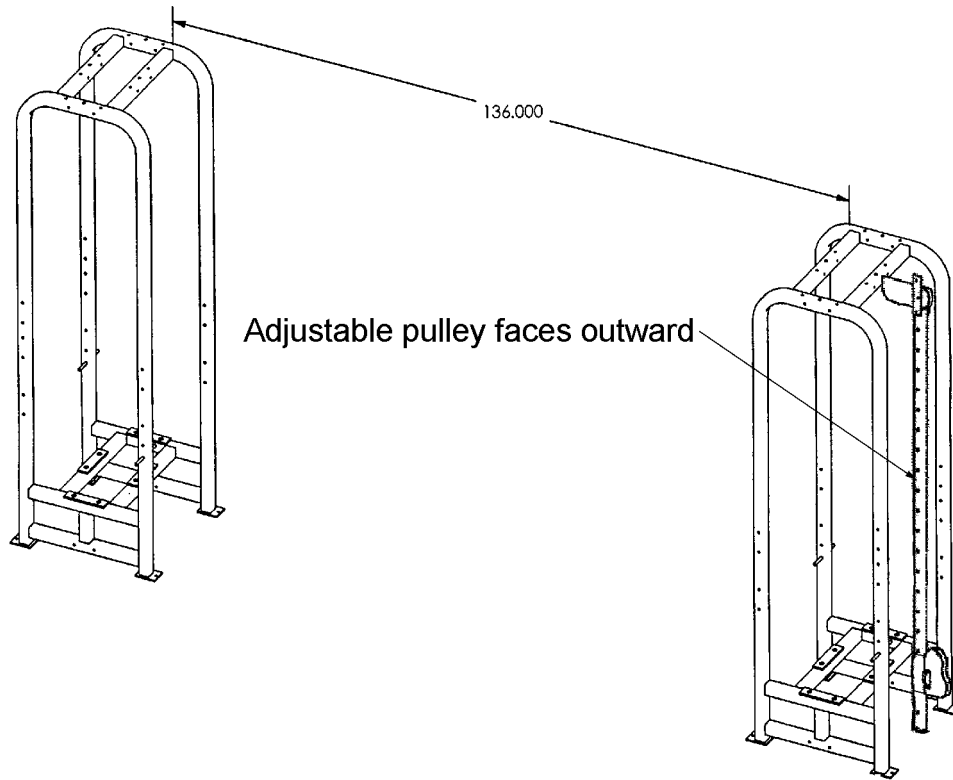

Figure 3. Set the weight stack cubes.
1. **Place the two weight “cubes”** in their “final resting spots.” The cubes will be approximately 11’4” apart as shown in Figure 3.
Hardware Figure 3 shows the types of cables that are included with the SM62.
Hardware Figure 3. Cables.